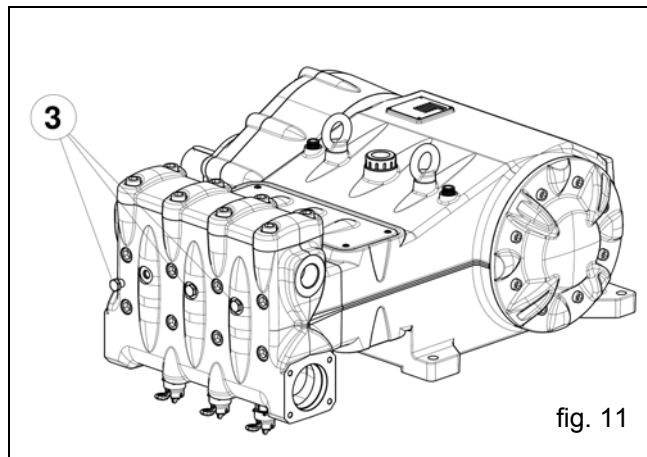

fig. 11
**In case of priming problems caused by insufficient feeding, it's possible to intervene by removing the three front caps on the head (see position 3 fig.11), (MK40 excluded).**